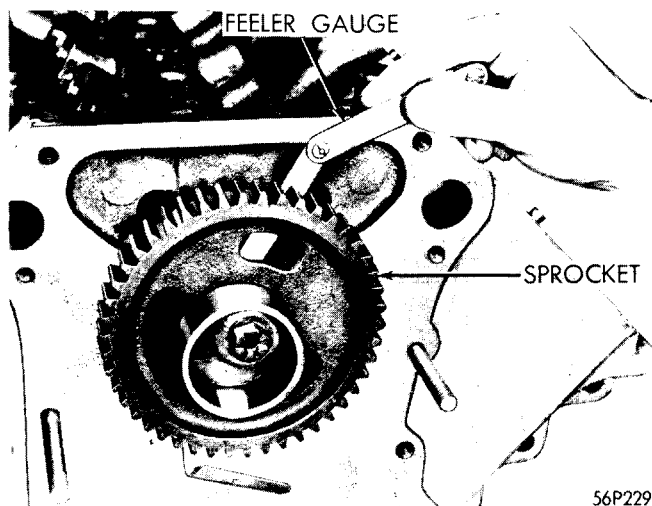

Fig. 8—Measuring Camshaft End Play
(1) Place chain on bench and locate both sprockets in chain in a position such that a straight line between the timing marks will pass through center of each sprocket.
(2) Rotate crankshaft to line up key in shaft with keyway in sprocket.
(3) Rotate camshaft to line up keyways in shaft and sprocket.
(4) Slide sprockets and the chain on shafts as an assembly.
(5) Check camshaft for .002 to .006 inch end play. If not within these limits, install new spacer and/or thrust plate (Fig. 8). Install fuel pump eccentric.